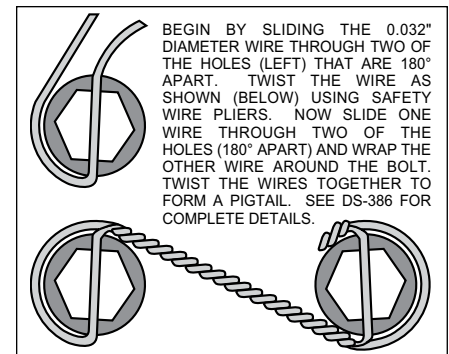

Figure 3. Safety Wire Diagram
- With the larger I.D. side of the rotor (6) facing away from the hat (7), bolt rotor (6) to the hat (7) through the backside of the rotor using washers (8) and bolts (9). Apply red *Loctite*® 271 to the bolt threads and torque to 155 in-lb using a criss-cross pattern. For an added measure of security, the bolts may be safety wired using standard 0.032 inch diameter stainless steel safety wire as shown in Figure 3. Please refer to Wilwood's data sheet DS-386 (available at [www.wilwood.com/Pdf/DataSheets/ds386.pdf](http://www.wilwood.com/Pdf/DataSheets/ds386.pdf)) for complete safety wire installation instructions.
- Install washer (14) over each pre-installed stud (13) on the radial mount bracket (1). Slide the caliper (10) in place over the studs and rotor, then install the washer (12) and lock nut (11) to hold the caliper in place. The caliper bleed screws should be pointing up. Snug the lock nuts (11) and check that the rotor (6) is centered in the caliper (10). Add or subtract .029" shims (3) as necessary between the caliper mounting bracket (1) and the spindle to center the caliper (10).
- Remove the caliper center bridge pad retainer bolt, nut, and tube from the caliper. Slide the brake pads (15) into place. They should install easily without interference. Check that the outside radius of the brake pad is aligned with the outside diameter radius of the rotor face. Add or subtract shims (14) between the caliper (10) and mount bracket (1) to gain the proper alignment. Reinstall the center bridge pad retainer tube, bolt, and lock nut. The lock nut should be snug without play in the bolt or tube. Be cautious not to over tighten.
- Once all clearances have been checked, remove the wheel, caliper, hat, and rotor from the spindle and hub. Secure the caliper mounting bracket (1) to the spindle with bolt (2), washers (3), lock washer (4) and nut (5) as done previously using red *Loctite*® 271. Torque bolt (2) to 75 ft-lb. Reinstall the hat and rotor assembly and again using two lug nuts (finger tighten) to hold it in place. Reinstall the caliper and torque the caliper nuts (11) to 30 ft-lb.